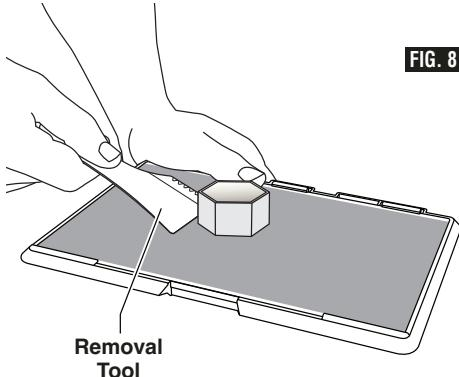

FIG. 8
3. Peel your object from the build platform. If needed, gently use the object removal tool to remove object from build platform (figure 8). If desired, remove the build tape from the build platform while separating the object from the build platform. The build tape can then be removed from the object.